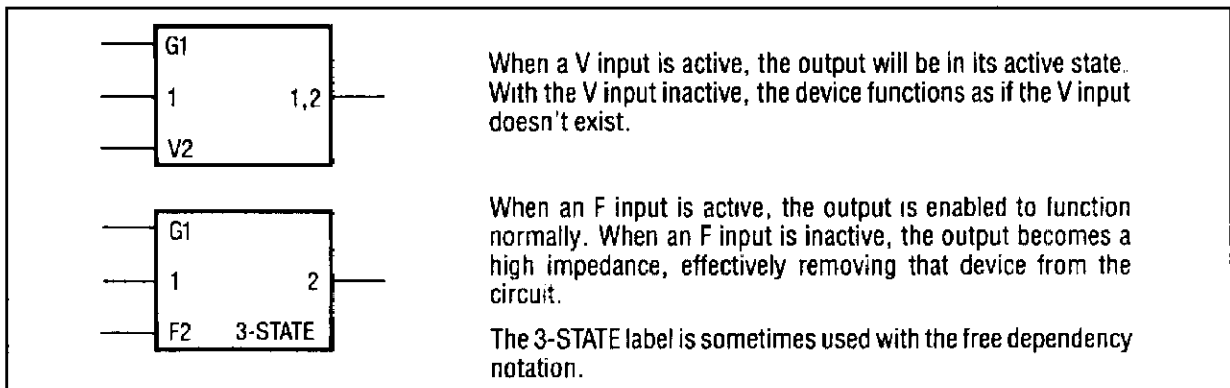

Figure 8-10. OR and Free Dependency Notation
**Shift Register.** The shift register (see figure 8-10) control block shows common inputs to a bidirectional shift register. Notice that “>*m*” means shift the contents to the right or down by “*m*” units. And “<*m*” means shift the contents to the left or up by “*m*” units. Note: If *m* = 1, then “*m*” may be omitted. Inputs “a” and “b” are each single IC pins that have two functions. Input “a” enables one of the inputs to the top D-type flip-flop (1D) and also shifts the register contents down “*m*” units. Input “b” enables one of the inputs to the bottom flip-flop (2D), and also shifts the register contents up “*m*” units. Input “c” loads all four flip-flops in parallel (3D). Input “d” is a common reset. The output delay indicator is used because these are master-slave flip-flops.